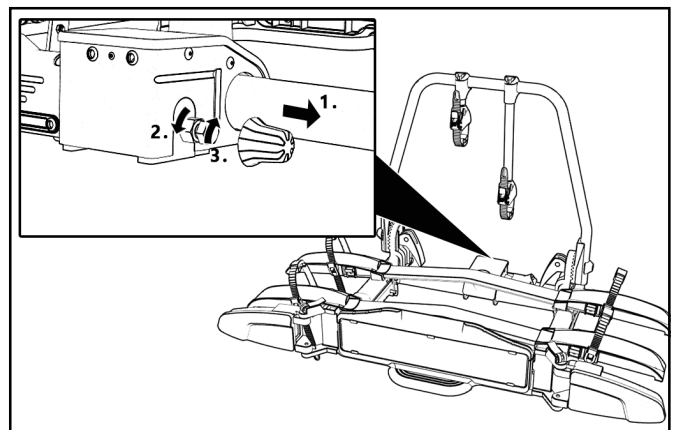

Figure 12: Adjusting the quick-release fastener
- ▶ Loosen the locking nut slightly (fig. 12).
- ▶ Screw in the setting screw one quarter of a turn (fig. 12).
- ▶ Tighten the locking nut (fig. 12)